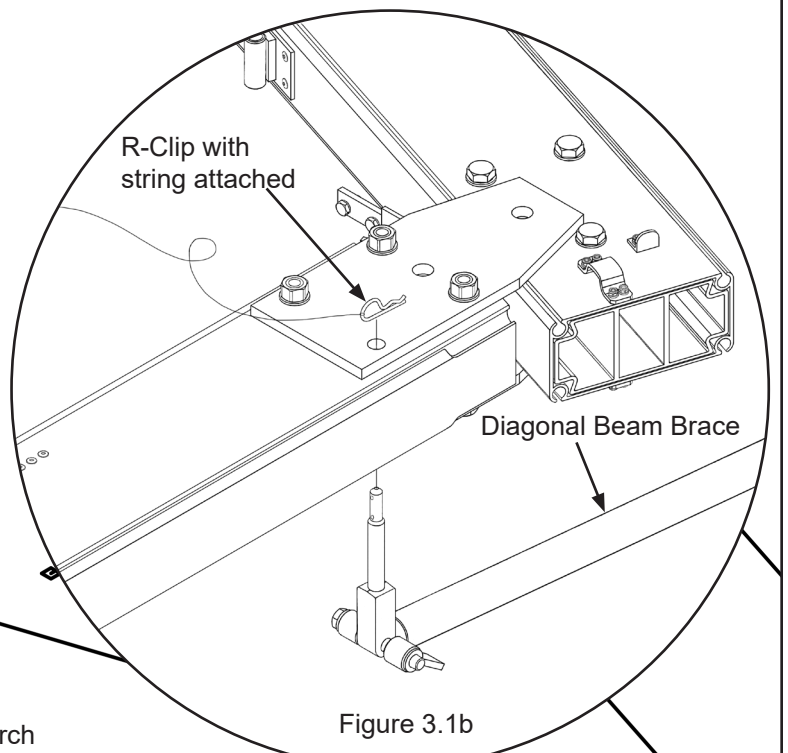

Figure 3.1b
3.1.3 Connect Push pole to Ridge Weldment as shown in Figure 3.1b using R-Clip with string. (Similar to Diagonal Beam Brace Connection as described above).
In Figure 3.1b, bolt, washer and nut must be removed from gusset plate before installing push-pole pin.